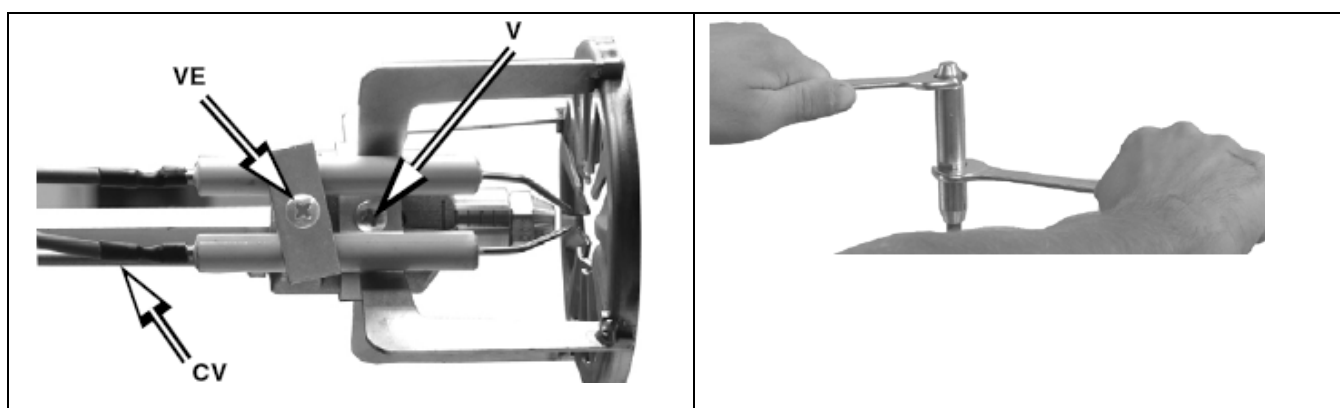
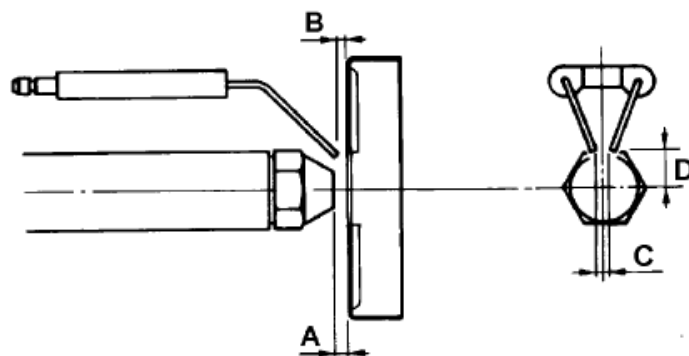

Fig. 10
Fig. 11
1. Before disassembly the nozzle and the electrodes, disconnect the cables CV (Fig. 10), measure the positions quoted in Fig. 11 and make a note in the table on Tab. 3.
2. Unscrew the V screw that fastens the combustion head and remove the head from the nozzle-holder (Fig. 10)
In order to remove the nozzle, it is important to use two wrenches as shown in Fig. 10, to avoid damaging the burner component plate!
5. reassemble all the elements, remember to fasten the V and VE screws and re-connect the cables CV (Fig. 10), respecting the positions measured previously and quoted on the table below;